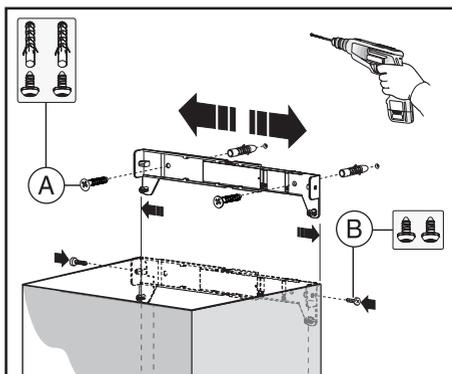
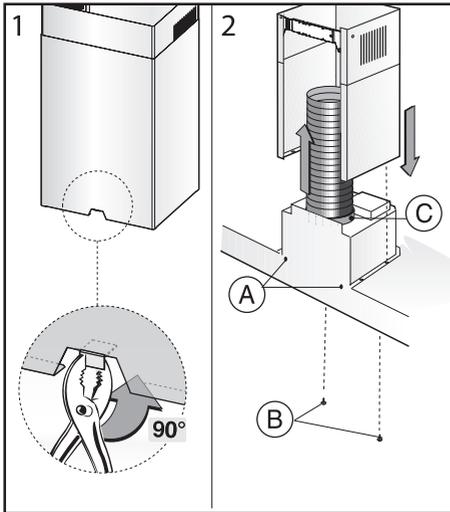

Fig.3
Fig.5
Drill the holes **A** respecting the distances indicated (Fig.2). Fix the appliance to the wall and align it in horizontal position to the wall units. When the appliance has been adjusted, definitely fix the hood using the screws **A** (Fig.5). For the various installations use screws and screw anchors suited to the type of wall (e.g. reinforced concrete, plasterboard, etc.). If the screws and screw anchors are provided with the product, check that they are suitable for the type of wall on which the hood is to be fixed.
**WARNING:** If your appliance model features the lower connector with a tab, before fixing it in place bend the tab inwards using a pair of pliers, as illustrated in **figure 5, step1**.
Arrange the electrical power supply within the dimensions of the decorative flue. If your appliance is to be installed in the ducting version or in the version with external motor, prepare the air exhaust opening. Adjust the width of the support bracket of the upper flue (Fig.3). Then fix it to the ceiling using the screws **A** (Fig.3) in such a way that it is in line with your hood and respecting the distance from the ceiling indicated in Fig.2. Connect the flange **C** to the air exhaust hole using a connection pipe (Fig.5 - Stage 2). Insert the upper flue into the lower flue.
Fix the lower flue to the hood using the screws **B** provided (Fig.5 - Stage 2), extract the upper flue up to the bracket and fix it with the screws **B** (Fig.3). To transform the hood from a ducting version into a filtering version, ask your dealer for the charcoal filters and follow the installation instructions.